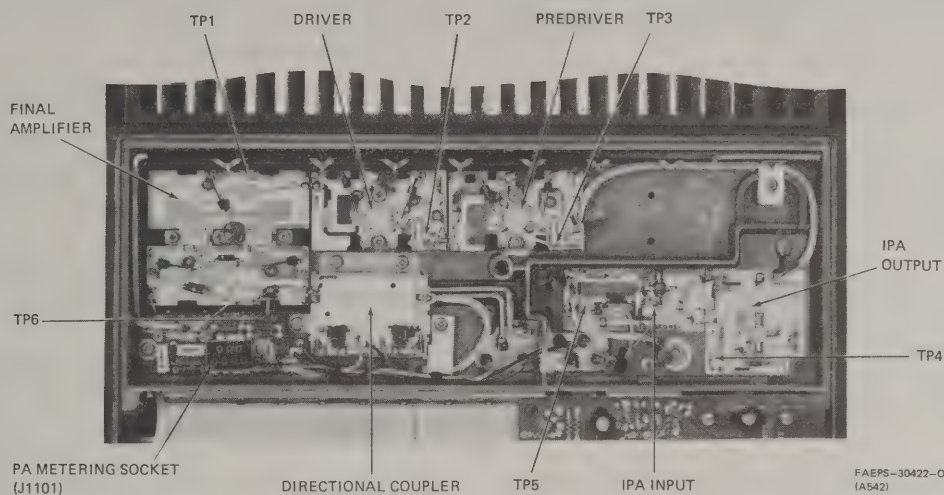

Figure 1. Power Amplifier MS3 Connections
2.2.3. It will be noted from the table that MS3 (pin #3 of the PA metering socket) is associated with IPA1, IPA2, PD, DR, and FPA (refer to the abbreviations provided on the troubleshooting chart). The various MS3 readings can be obtained by referring to Figure 1, which shows the various MS3 connections.